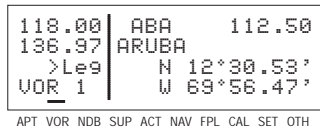

Figure 4-67
1. Make sure you have turned the cursor off from the previous example. With the right knobs, select the VOR 1 page (figure 4-67).